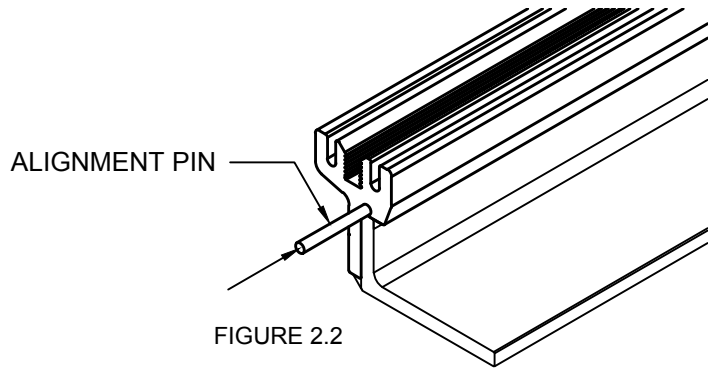

FIGURE 2.2
- 2.10) Slide the grooved end of the Alignment Pin, approximately half of its length, into the alignment pin hole of Floor Frame that has already been fastened. (See Figure 2.2)